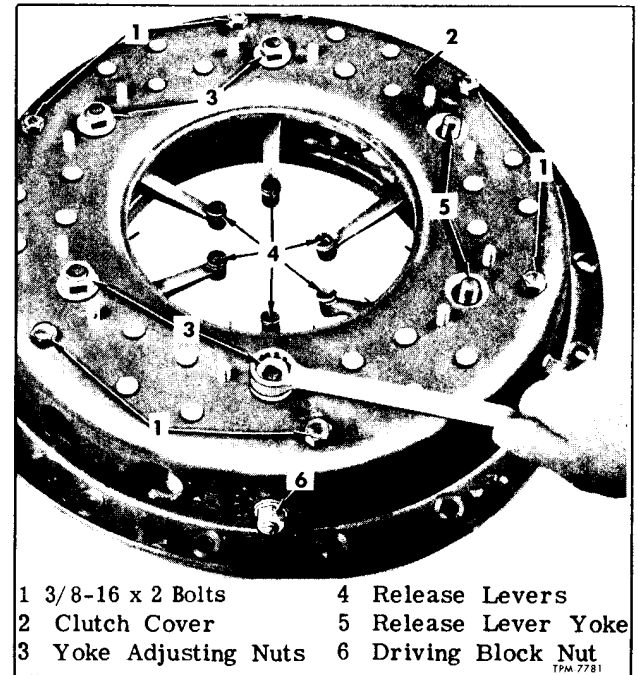

Figure 13—Yoke Adjusting Nut Removal
1. Remove nuts, washers, and thrust plate (29) used to lock each adjusting nut (28).
2. Remove adjusting nuts (fig. 13) from yokes. Hold-down bolts ($3/8\text{-}16 \times 2$) will hold springs in compressed position while removing adjusting nuts.
3. Mark cover (12) and pressure plate (9) so that correct relative position will be known when reassembling; then remove six bolts (1, fig. 13), turning screws alternately and in gradual stages until spring pressure between cover and plate has been relieved. Lift clutch cover (12) off the pressure plate assembly.
5. Remove cotter pins from release lever pins and pull out pins. Be careful to note position of washers, springs, and number of rollers (31), so parts can be reassembled correctly.
6. Thread adjusting nuts (28) onto yokes (30) so that end of yoke is approximately flush with top of nut. Refer to figure 13.
7. Install adjusting nut thrust plates (29), tightening plate retaining nuts firmly.